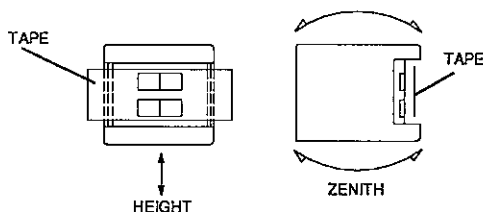

Figure 4-5
5. Adjust the head height and zenith and repeat steps 3 and 4 until the head gaps are exactly centered in the height of the wear pattern, and the wear pattern is rectangular rather than trapezoidal. Refer to **Figure 4-5**.